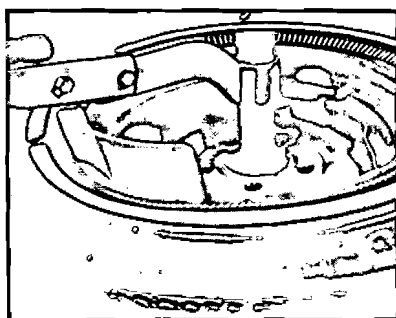

FIG. 2—Breaking Top Bead of Tire From Wheel Rim
3. Unseat the beads of tire with the bead breakers away from the valve stem as shown in Fig. 2.